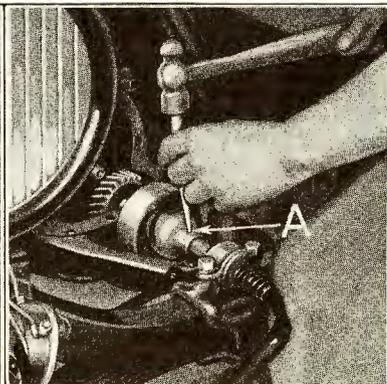

Fig. 273
- (a) Remove starting crank by withdrawing cotter key from starting crank ratchet pin and driving out pin with a drift (See "A" Fig. 273).